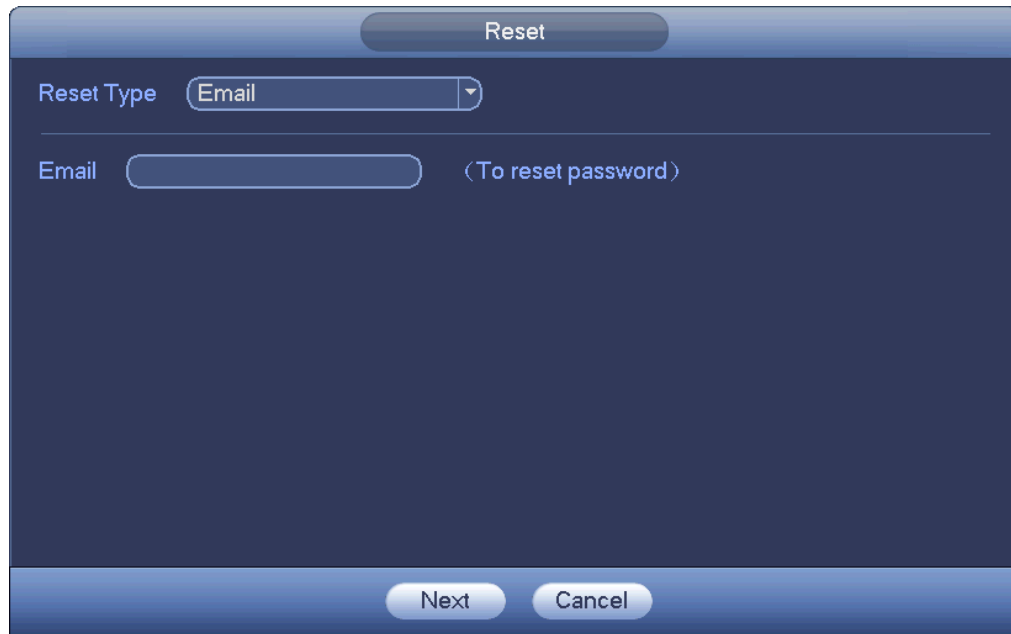
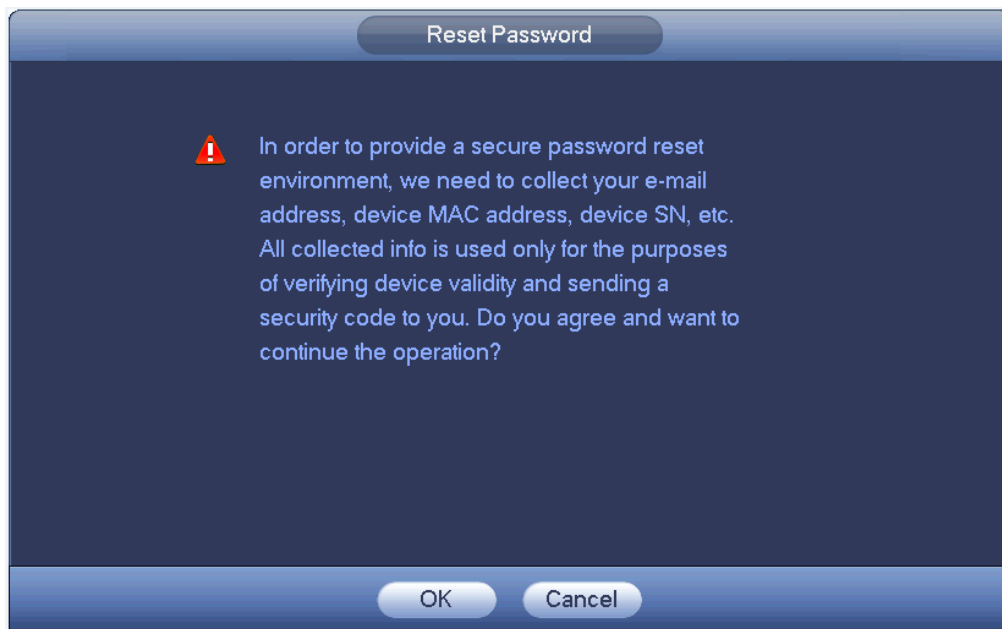
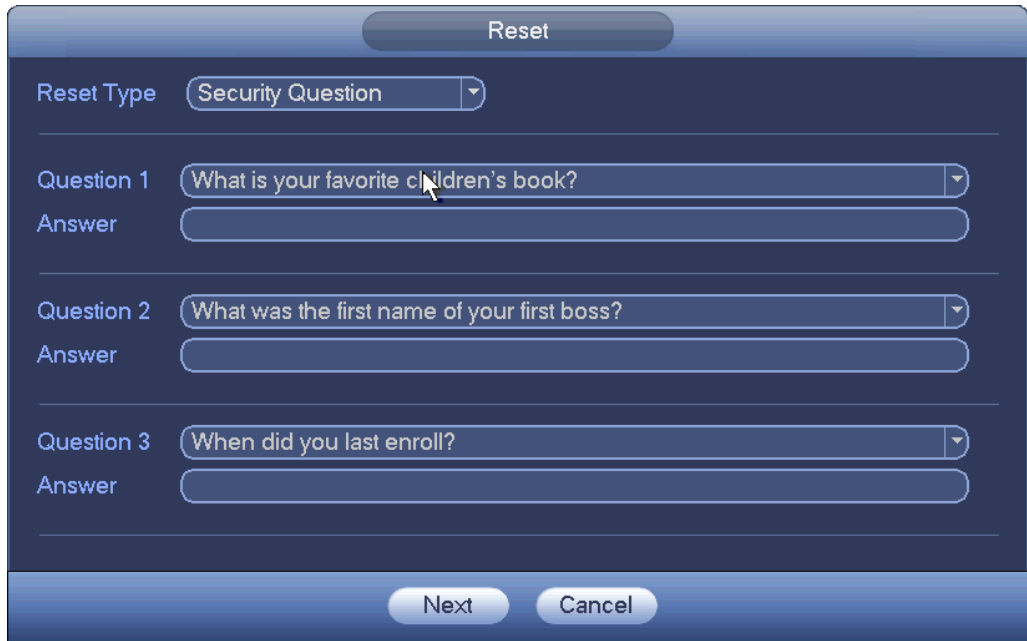

Figure 3-6
Figure 3-7
Figure 3-9
- If you have not input email address information when you are initializing the device, the interface is shown as in Figure 3-6. Please input an email address, click Next button, and then device goes to Figure 3-7.
- If you have input email when you are initializing the device, device goes to Figure 3-7.
In Figure 3-6, select security question from the drop down list. Device displays security question interface. See Figure 3-9. Please input the correct answers here.